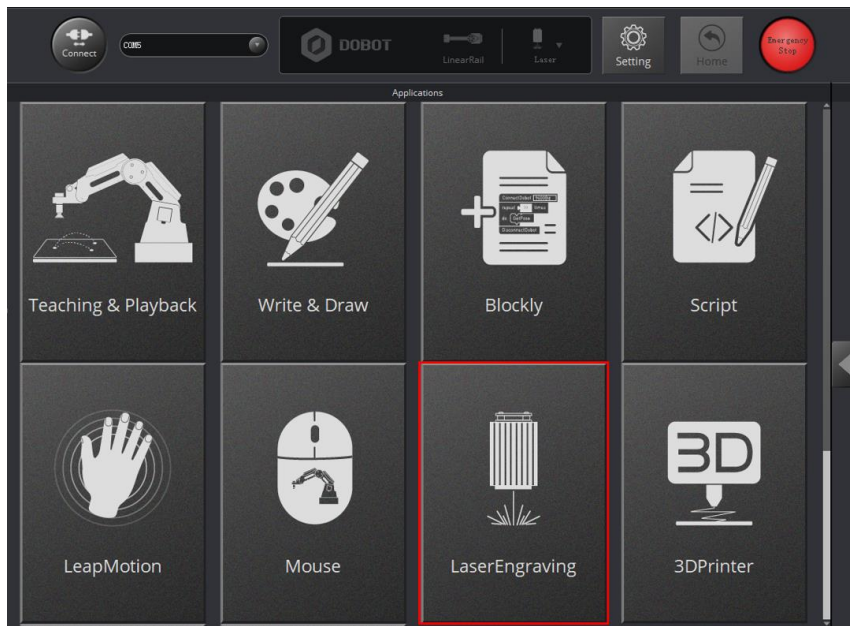

Figure 5.91 Click LaserEngraving
Step 2 Click **LaserEngraving**, as shown in Figure 5.91.